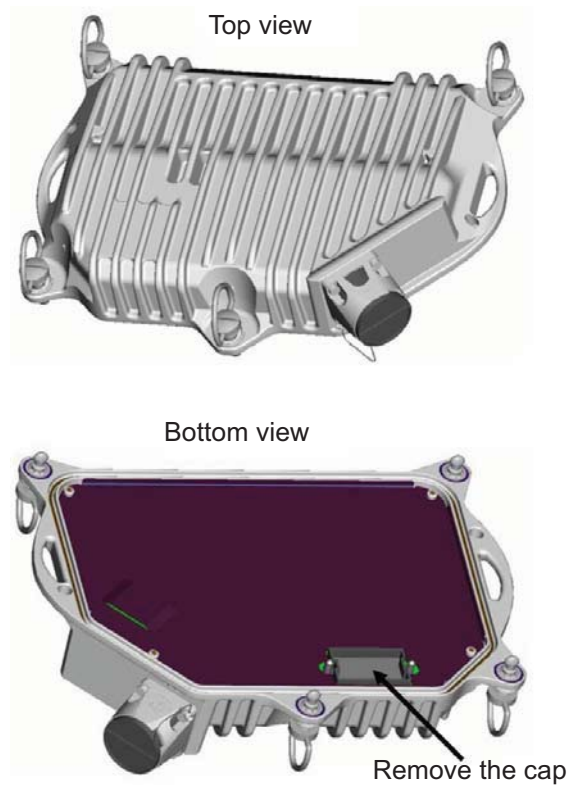
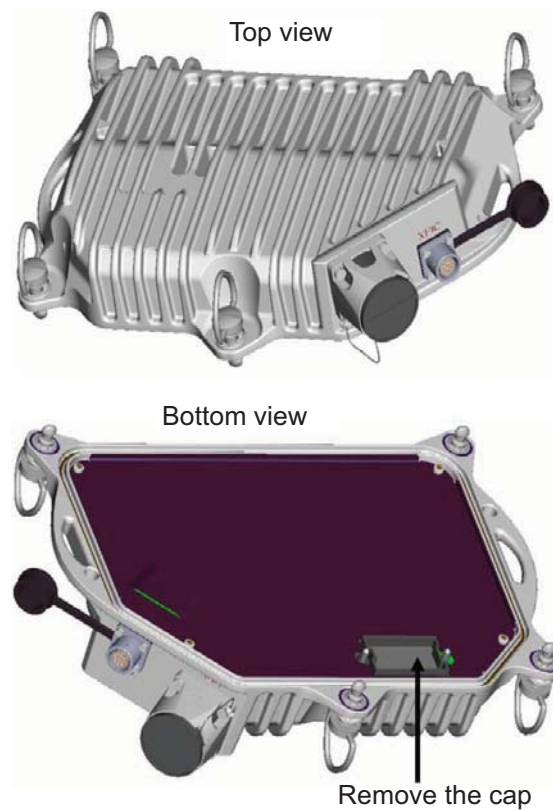

Figure 499. RPS module
Figure 500. XPIC + RPS module
- 5) Withdraw the external module from the packing-case (RPS: refer to Figure 499. or XPIC+RPS: refer to Figure 500.) and remove the cap.